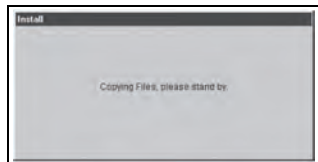

Figure 4-4 Initial Software Install Screen
1. Place the EBA-03 calibration software CD into your CD drive. Wait a few seconds, and the first screen shown in Figure 4-4 will appear.